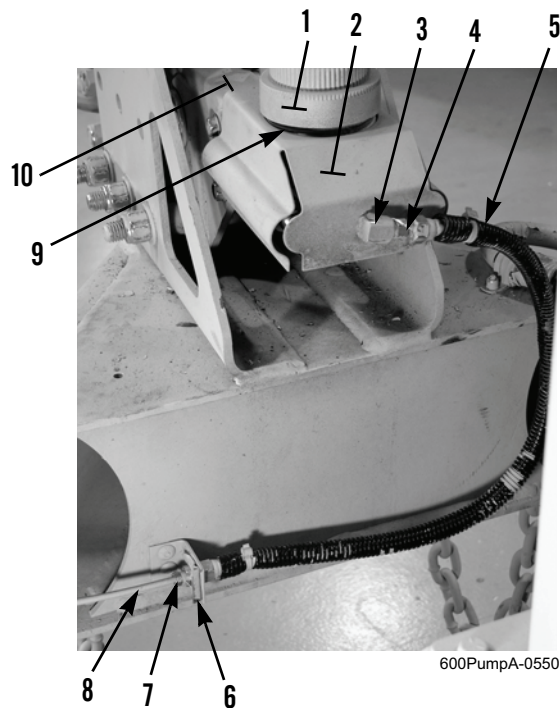

Figure 4. Master Cylinder and Flex Brake Line.
6. Remove plug from master cylinder (Figure 4, Item 9). Install elbow (Figure 4, Item 3) and straight adapter (Figure 4, Item 4) on master cylinder.
7. Connect flex brake line (Figure 4, Item 5) to straight adapter (Figure 4, Item 4).
8. Connect flex brake line (Figure 4, Item 5) to front solid brake line (Figure 4, Item 8) and tighten nut (Figure 4, Item 7). Install frame bracket clip (Figure 4, Item 6).
9. Remove cap (Figure 4, Item 1) and add brake fluid to master cylinder (Figure 4, Item 9) until brake fluid level is within 1/8 in. (0.32 cm) of top of master cylinder reservoir.